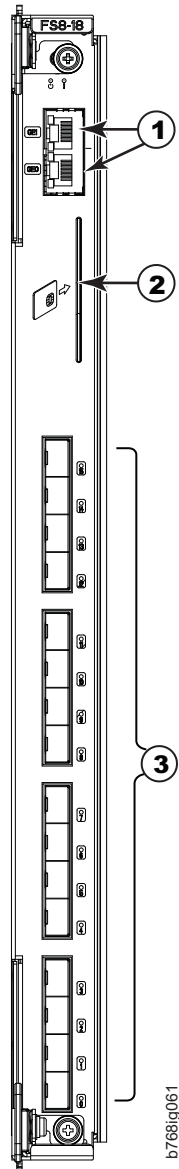

Figure 53. FS8-18 encryption blade
- Figure 53 on page 167 shows an FS8-18 encryption blade